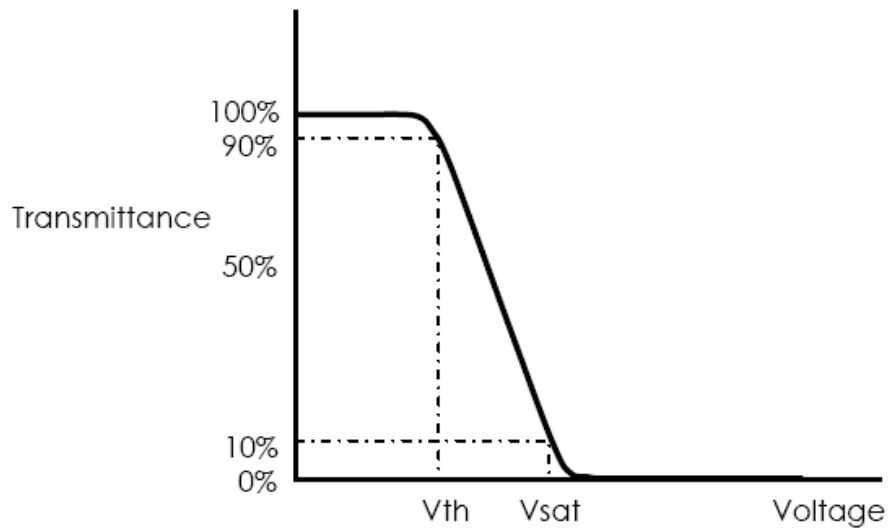

Figure 3. The definition of Vth & Vsat
6. The electro-optical response time measurements shall be made as FIGURE 3 shown in Appendix by switching the “data” input signal ON and OFF. The times needed for the luminance to change from 10% to 90% is T_r , and 90% to 10% is T_d